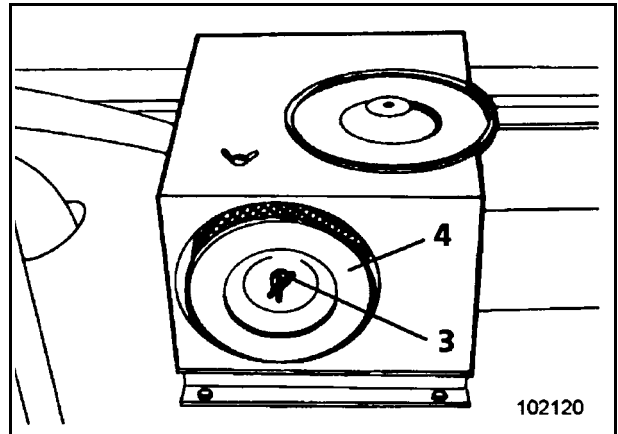

Fig. 3-24:
- Unscrew nut (3, Fig. 3-24:) and withdraw main filter element (4). Do not loose the washer under nut (3).